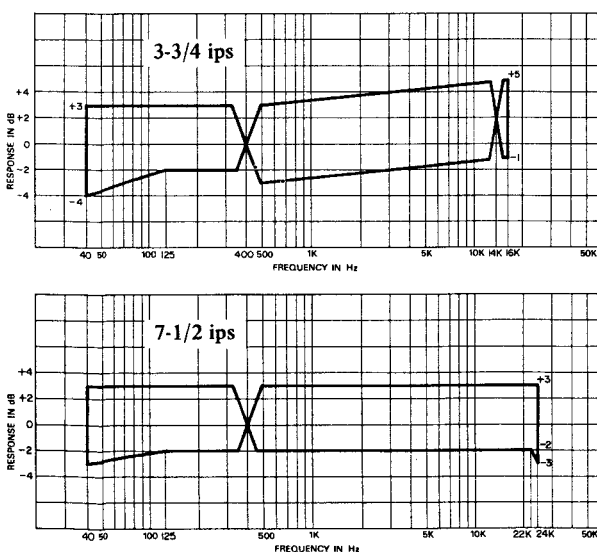

Fig. 8-10 Frequency Response – OVERALL – 1
20. During recording, monitor the Tape signal and adjust equalization L-301/L-303 for readings within the Response Limits charts. See Fig. 8-10 below.
22. Apply signal swept from 40 Hz to 24 kHz, -28 dB (30.8 mV) and while monitoring the off-the-Tape signal check for readings within the Response Limits charts. See Fig. 8-10 below.